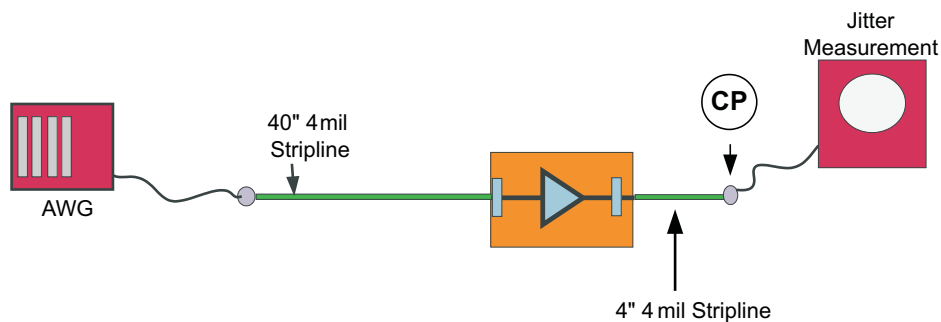

Figure 7. Jitter Measurement Test Condition
(1)  $T_J = (14.1 \times RJ_{SD} + DJ)$  where  $RJ_{SD}$  is one standard deviation value of RJ Gaussian distribution. Jitter measurement is at the SATA connector and includes jitter generated at the package connection on the printed circuit board, and at the board interconnect as shown in Figure 7.